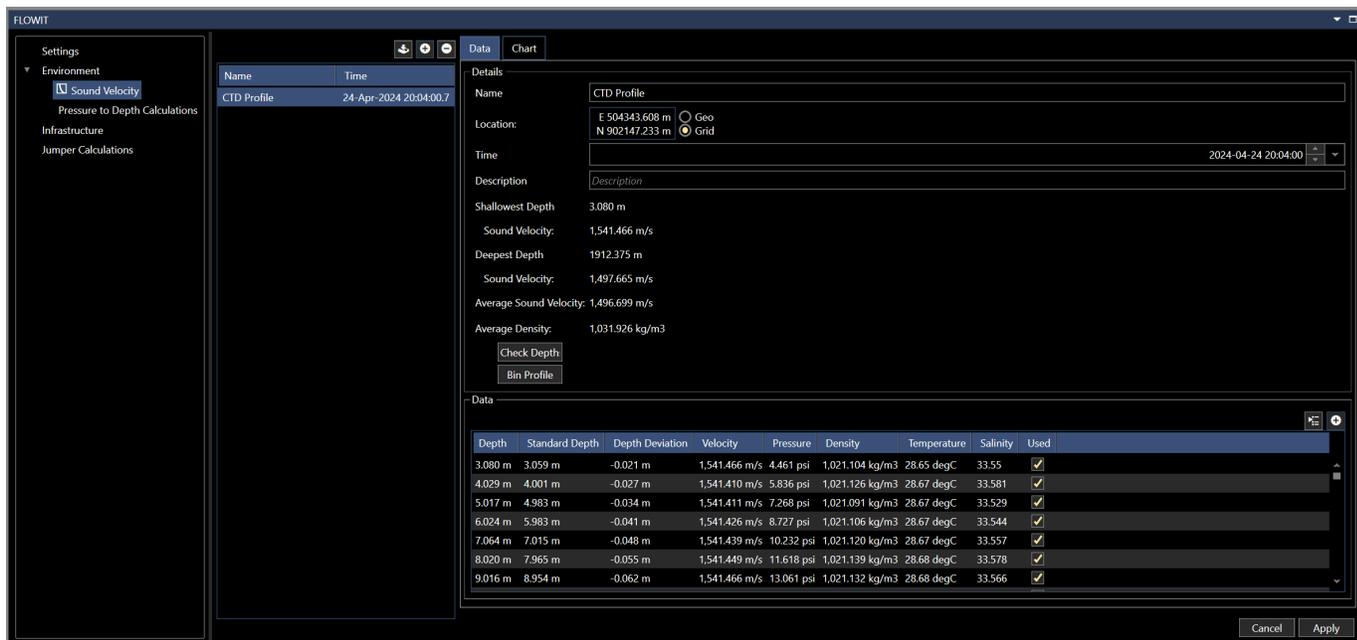

FIGURE 9 – SOUND VELEOCITY PROFILE DETAILS
2. Select the profile to view, details of the profile will be displayed, see Figure 9.